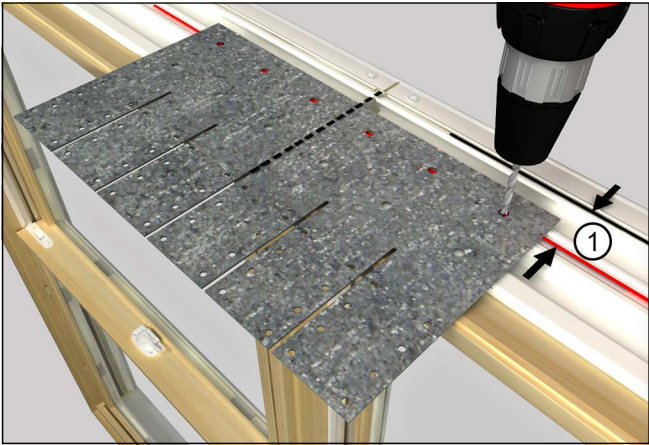

Figure 10
1. Measure and mark a line 1-1/2" from the nailing fin kerf. Center the bracket over the mull and align the exterior hole on the mull bracket with your mark. Using the bracket as a guide, carefully drill 3/32" pilot holes through the first layer of the Ultrex frame. See Figure 10